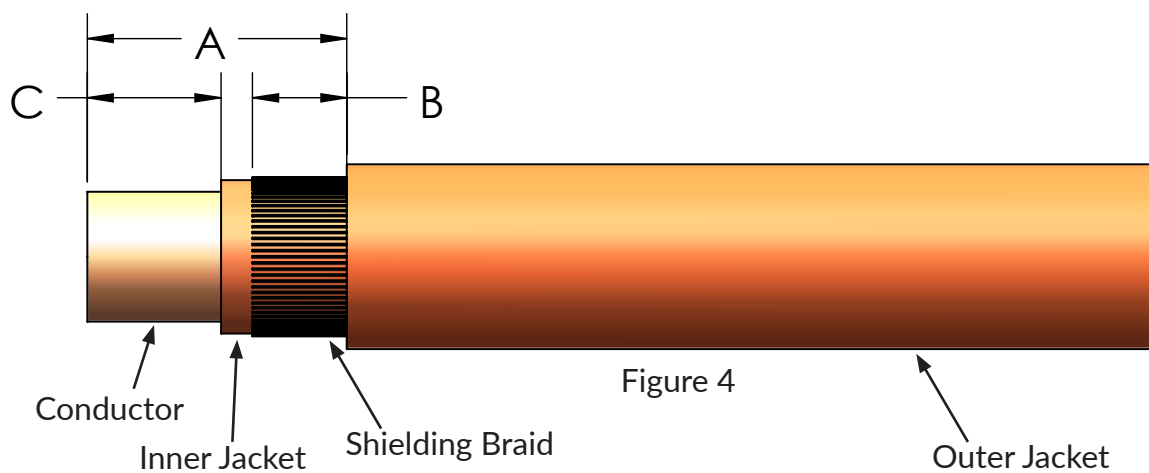

Figure 4
3) As figure 4 shown, strip the inner jacket per table 3 dimension “C”, the conductor should not be damaged during stripping;